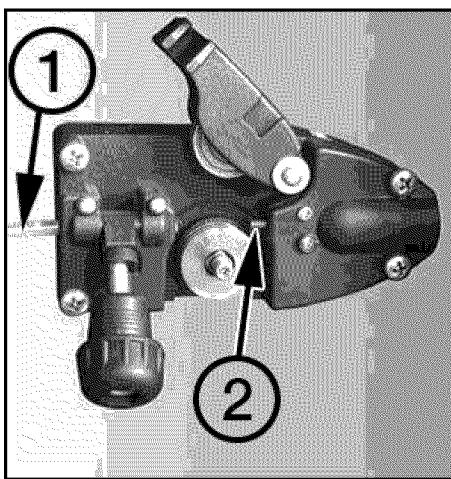

Fig. 6
2.10 Insert the wire into the inlet guide tube (Fig 6, 1), feed it across the drive roller and into the torch liner (Fig 6, 2)